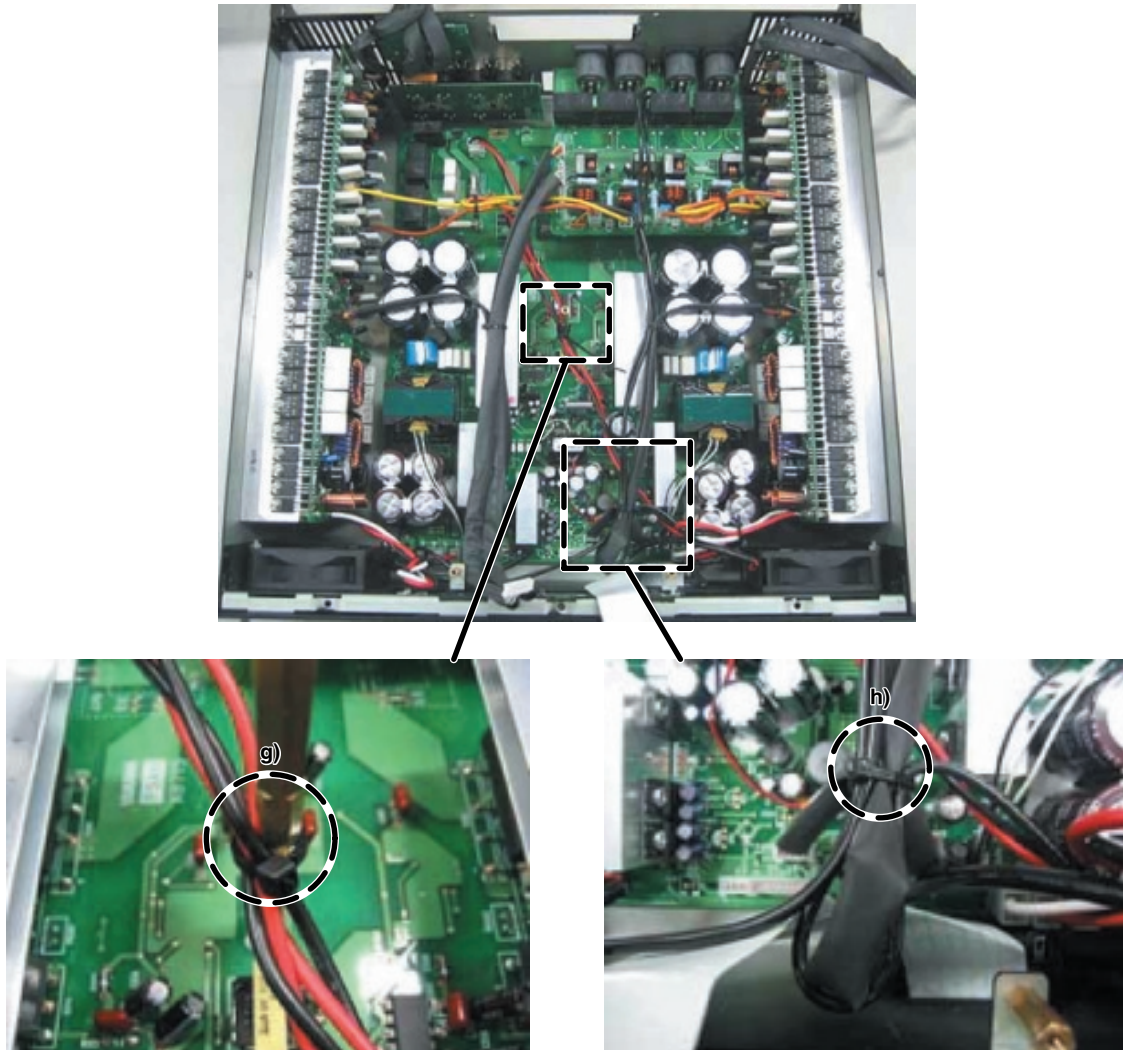

Fig. 21
- g) Fasten these wires (WK17900, WK17910 and WK94710) with a cord holder to the hexagonal spacer. (Fig. 21)
- h) Bend the wire (WK14200) and wire (WK16820) connected to the connector (CN317), and fasten the wires (WK14210, WK16820 x 2 and WK14200) with a cord holder. (Fig. 21)